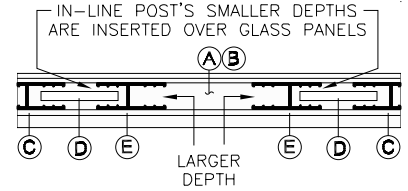

figure 3
6. As shown in exploded view - sheet 1, insert two(2) Setting Blocks (U) into the Sill cavity ends (your glass panels will sit on these). Take your Glass Panels (D), set them on top of the setting blocks and slide them into the appropriate Wall Jamb.
7. Insert the In-line Posts (E) into the Header and Sill cavities, then slide them over the glass panels as shown in figure 3 (smaller depth faces glass panel). Center the glass panels between the In-line Post and the Wall Jamb (a minimum of 3/8 of an inch insertion either side is required in order for vertical vinyl to work). When satisfied plumb the In-line Posts and secure to Header and Sill using two 638THS Screws (V). Screw (V) is not self drilling, therefore, pre-drill pilot holes using a 7/64" drill bit.